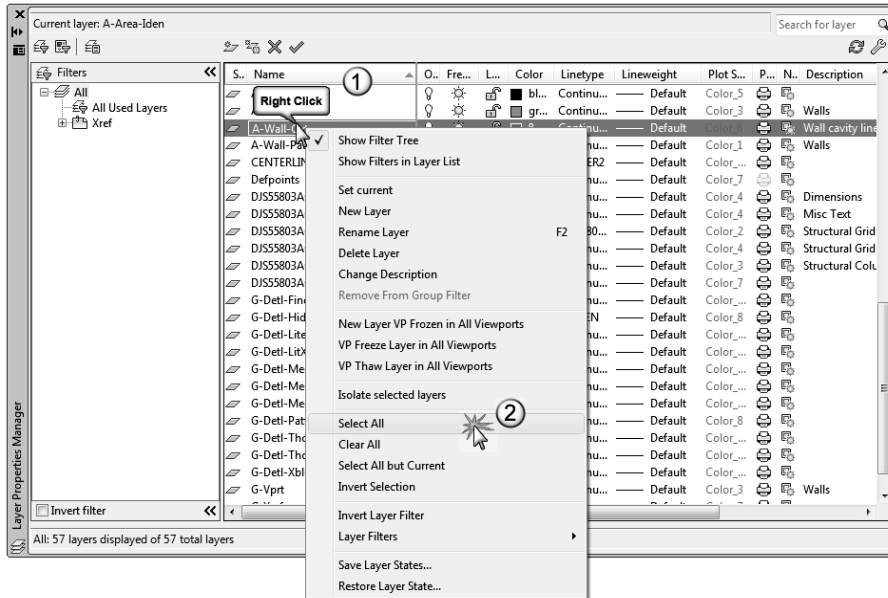
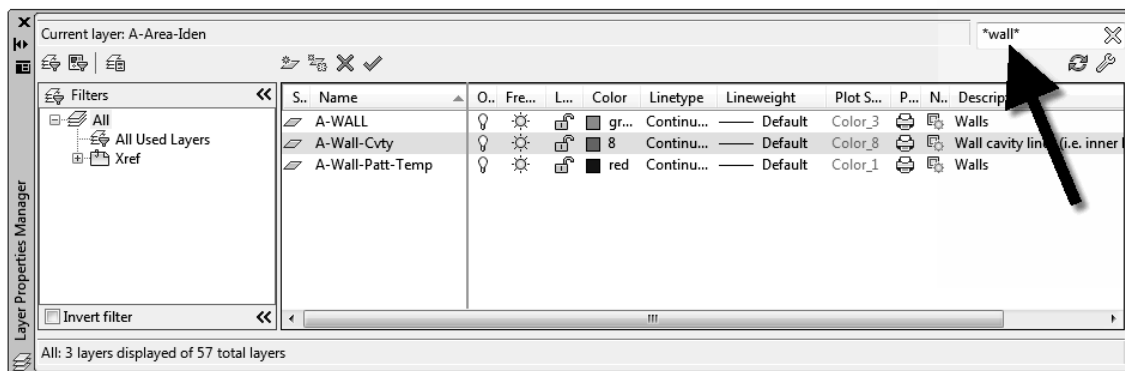

FIGURE 4-5.5 Layer Manager; right-click and pick “select all”
FIGURE 4-5.6 Layer Manager; search for “wall” layers
- Another method is to open the *Layer Manager* and right-click on any *Layer* name and click “**Select All**” from the pop-up menu. Then you can click any *Layer* icon that is “off” and all *Layers* will be turned “on” (see Figure 4-5.5).
Take a moment and notice the other tools available in the right-click pop-up menu shown in Figure 4-5.5.
In the text box in the upper right of the *Layer Manager* (that has the light gray words “Search for layer”; see Figure 4-5.5) you can type something like **\*grid\*** and see only the *Layers* that have the letter/word “grid” in them (e.g., A-Grid, A-Grid-Iden, DJSAGD01 | S-Grid, etc). See Figure 4-5.6 below for an example where only the *Layers* with the word “wall” are listed.